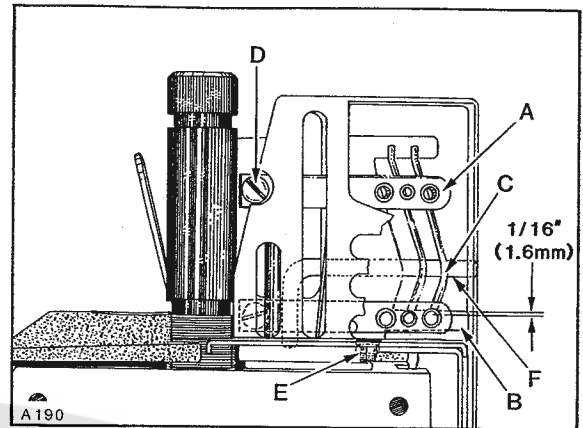

Fig. 30
Needle bar eyelet (A, Fig. 30) should be set with its eyelets 1/16 inch (1.6mm) below strike-off (B) on needle thread take-up cam wire (C) as shown in Figure 30, with needle bar at BOTTOM of stroke.